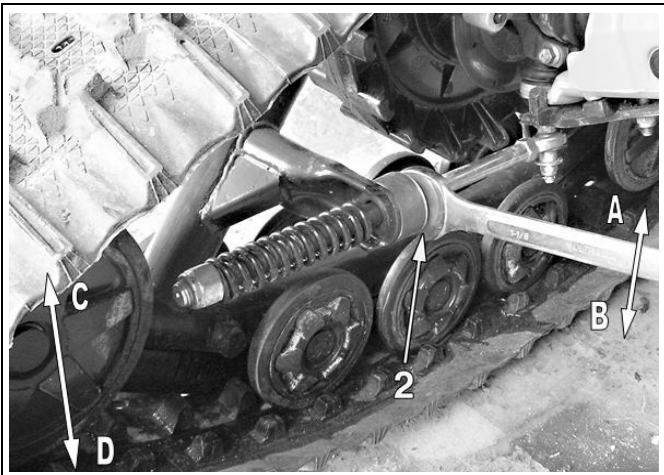

Figure 5
- Set the nut (2) shown on Figure 5 until the flat bar reaches 254 ± 6 mm above the ground. For right hand side, rotating the wrench towards A makes the system rotate towards C while rotating the wrench towards B makes the system rotate towards D (reverse for left hand side).